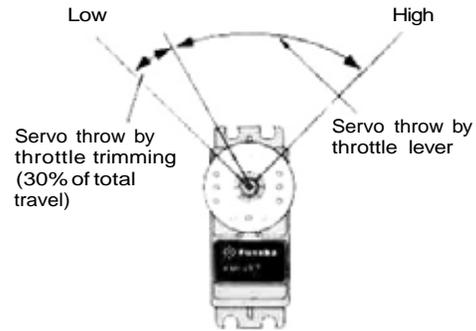

Fig. 5
11. **Throttle trim lever w/ATL** Adjustable travel trim lever. This lever acts as a trimmer only when the throttle lever is at the low side as shown in Fig. 5. It is very convenient because the high side of the throttle position remains unchanged even when the low side is adjusted.